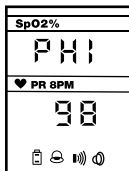
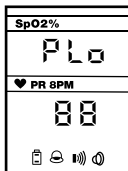

Fig. 11
Fig. 12
After SpO₂ Low Alarm setting, press the right button, and you will see the screen shown as Fig. 11 for setting PR high alarm. The High Alarm (PR) setting range is: 31-254 (bpm). Press the up or down button to adjust the number. Then press the right button for setting the low PR alarm (refer to Fig. 12). The Low Alarm (PR) setting range is: 30-253(bpm).